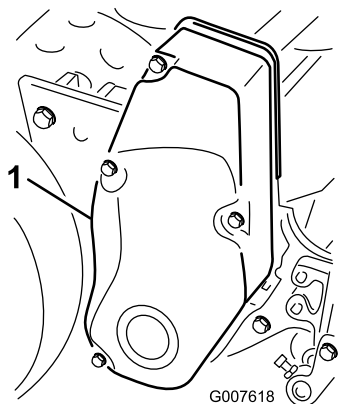

Figure 28
1. Remove the belt cover mounting fasteners and belt cover to expose the belt (Figure 28).